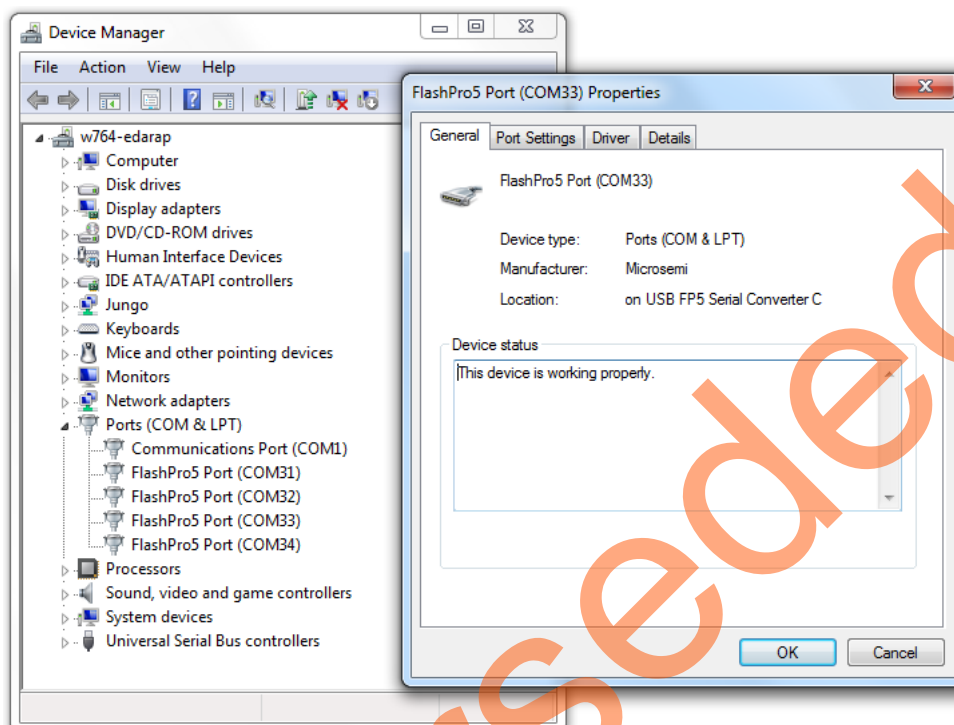

Figure 17 • Device Manager - FlashPro5 Properties
2. Select one of the four COM ports with **Location** as **on USB FP5 Serial Converter C**. Figure 17 shows the **Device Manager** window and its properties that display the **USB Serial Port** details. The COM port number is required to run the demo design.